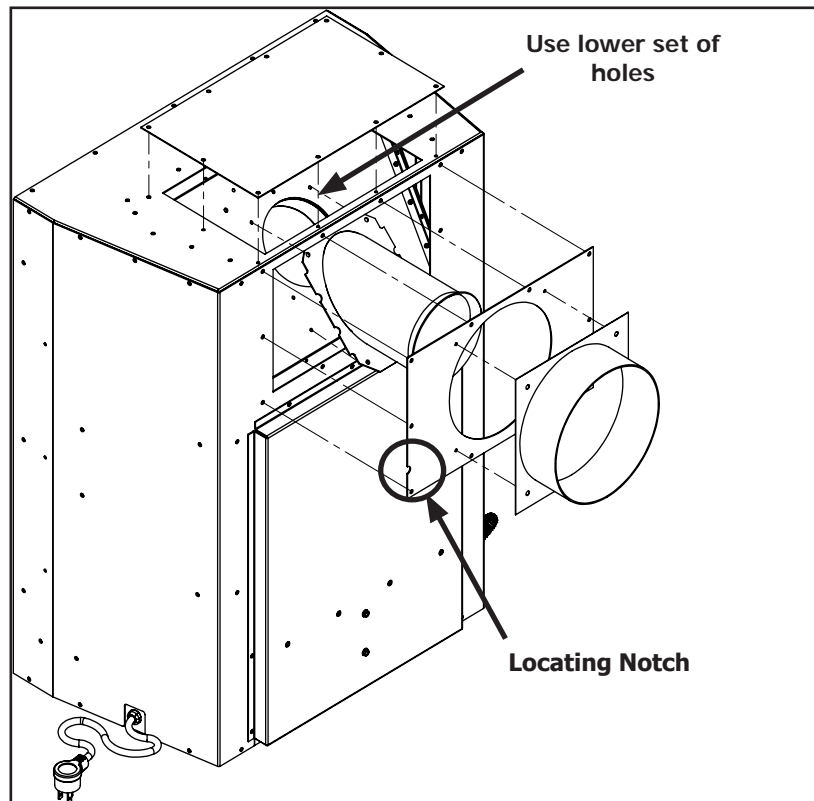

Figure 18. Vent Conversion - Step 2
**Step 2:** Switch the removed parts around as shown in Figure 18 and re-install all 28 screws. To correctly install the base plate keep the locating notch on each side at the bottom. Also note the exhaust spigot uses a lower set of holes when setup as a rear vent.